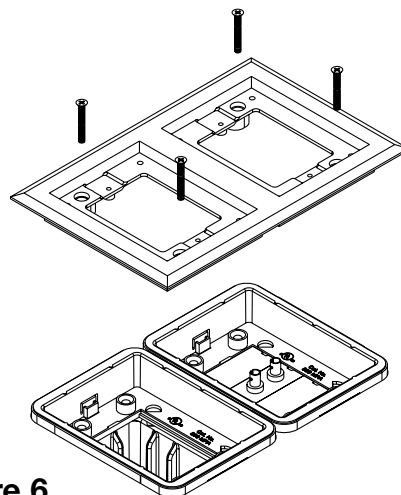

Figure 6
13. Attach the trim flange (sold separately) using four #8-32 screws supplied with trim flange (see Figure 6).